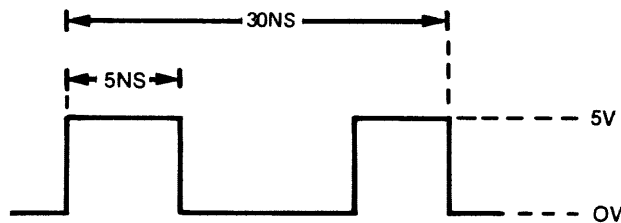

Figure 4-8. Asynchronous Operation Test Waveform
- Adjust pulse generator to supply test waveform shown in figure 4-8.